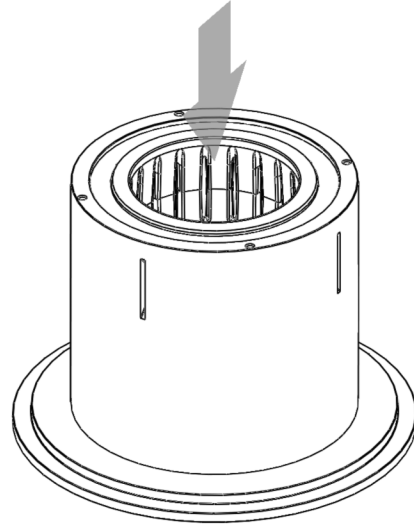

Figure 17 - Replace tube and core in liner.
- Replace the tube and core into the liner as shown in Figure 17 below.